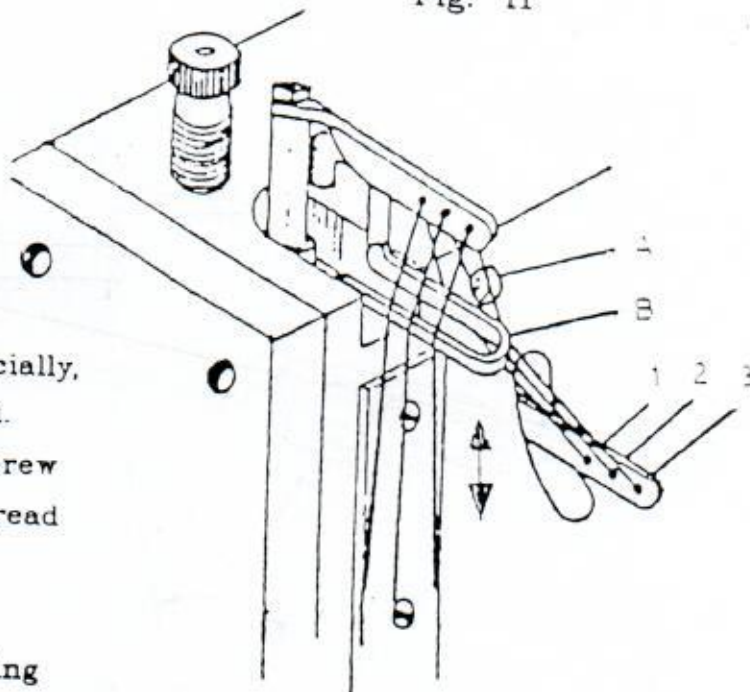

Fig. 12
1. It is adjusted by turning the screw A in Fig 12, and moving the thread support B up or down.